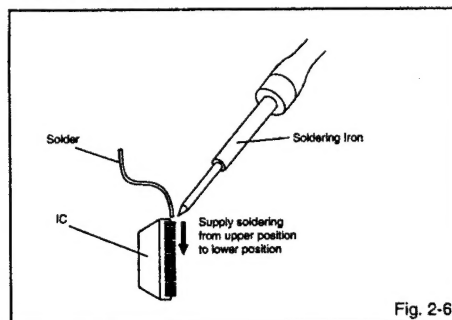

Fig. 2-6
2. Supply the solder from the upper position of IC leads sliding to the lower position of the IC leads. (Refer to Fig. 2-6.)